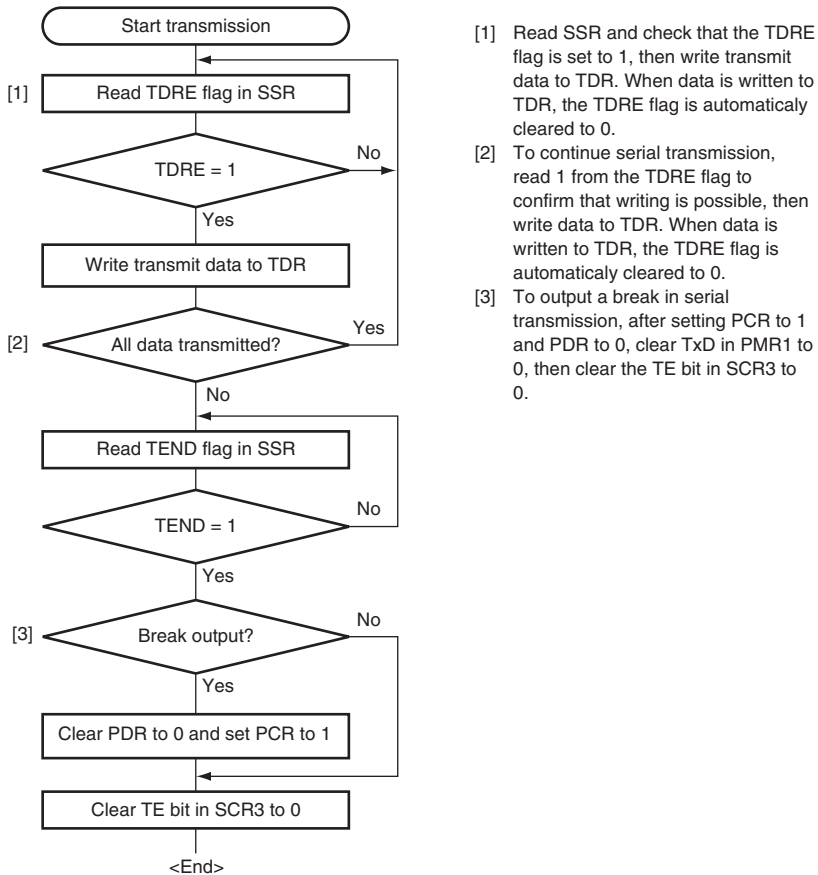

Figure 14.6 Sample Serial Transmission Flowchart (Asynchronous Mode)
6. Figure 14.6 shows a sample flowchart for transmission in asynchronous mode.